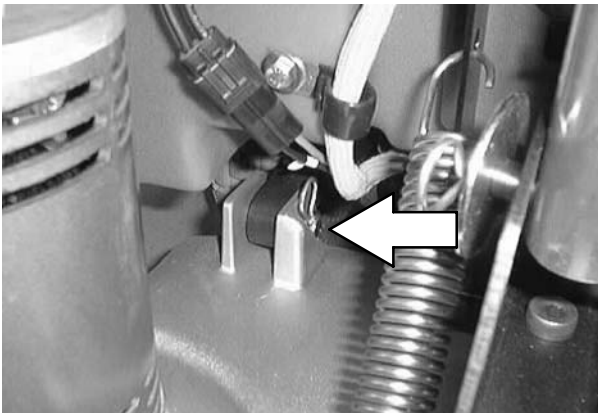

FIG. 6
1. Connect both of the lift arms to the scrub head with the clevis pins. Refer to FIG. 6.